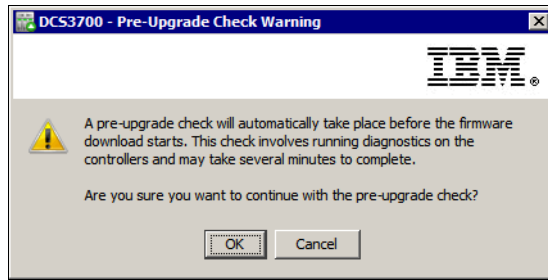

Figure 14-32 Pre-upgrade check warning message
- Every time that you click **Upgrade**, a warning message displays for an automatic pre-upgrade check, as shown in Figure 14-32.